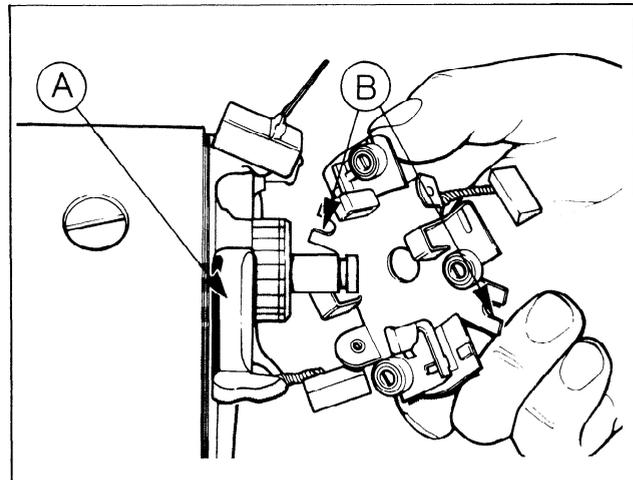

FIG. 10 Position Brush Holder
- Position brush holder over end of armature. Align location "cut-out" in brush holder with "loop" in field windings (Fig. 10). Brush will be positively located when through bolts are installed.